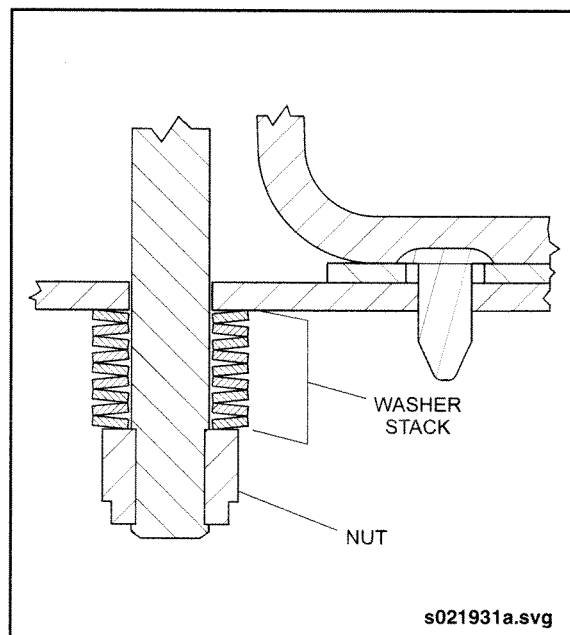

Fig. 7-3: Washer Stack Assembly
5. Attach the tank straps to the fuel tank support channels using T-bolt, washer stack, and lock nut. Ensure the washer stack is assembled in the correct pattern. See "Fig. 7-3: Washer Stack Assembly" on page 6.